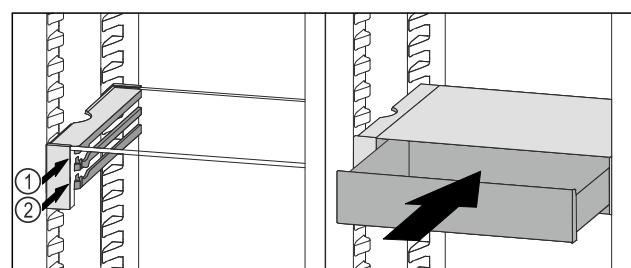

Fig. 97
- Place the VarioSafe drawer behind the stoppers on desired rib Fig. 97 (1) or Fig. 97 (2).